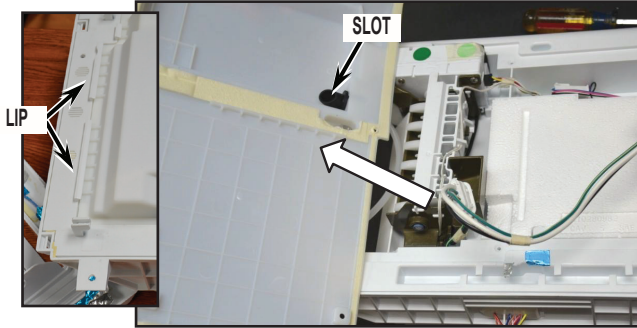

FIGURE 34
- Remove ice box cover while guiding ice maker harness through slot in ice box cover. Note lip for reassembly. See *Figure 34*.